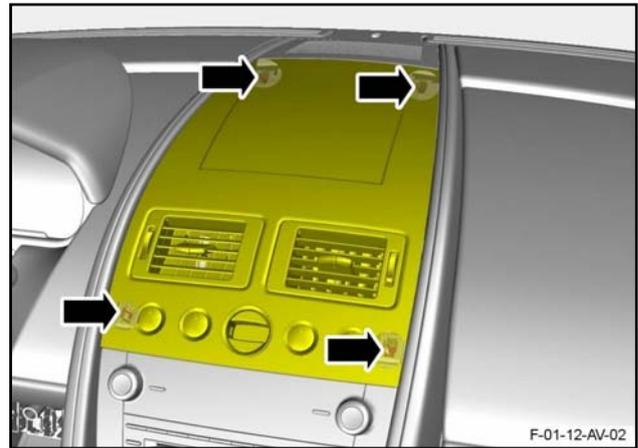

Figure 3
4. Release the veneer bezel from the four clips that attach it to the IP (Refer to Figure 3).